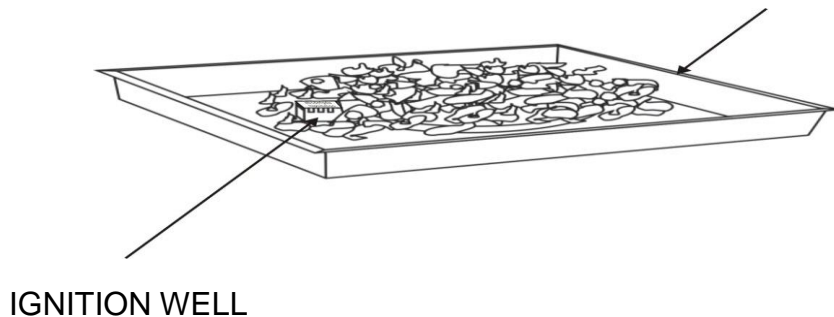

Figure 5
3. Pour the fire ice into the burner pan completely covering the burner. See Figure 5.